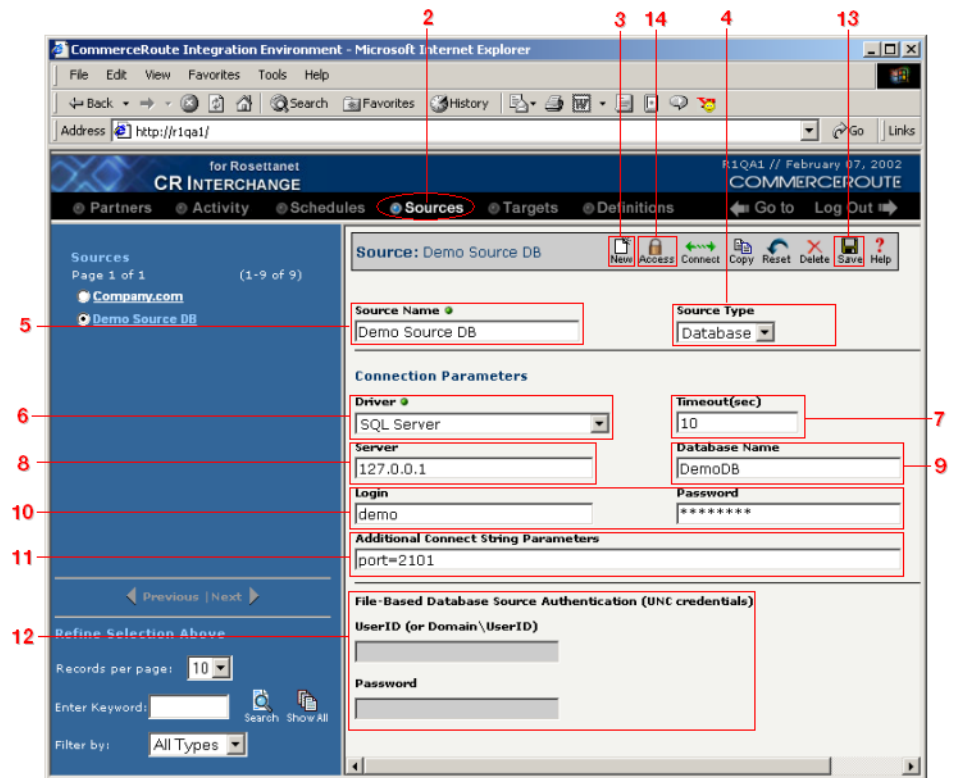

Figure 7-1. Follow the steps listed above to successfully define a new database source.
Follow these steps to create a new database source definition. Each step is marked in Figure 7-1 below.
- ❸ Click on the **New** button in the toolbar to create a new source definition.
- ❹ Choose **Database** from the **Source Type** drop-down menu.
- ❺ Enter an appropriate name for your new source in the **Source Name** field.
- ❻ Select the appropriate database driver from the **Driver** drop-down menu. Depending upon the driver you select, different fields may become enabled or disabled.
- ❼ (Optional) If you want to set a limit for how long to wait for a successful connection to the database, enter the number of seconds in the **Timeout** field.
- ❽ Enter the database server name (either name or IP address) you want to access into the **Server** field.
- ❾ Enter the name of the database you want to access into the **Database Name** field.
- ❿ (Optional) Enter a username and password into their respective fields that will allow access to your database.
- ⓭ Click the **Save** button in the toolbar. Compare your definition to that shown in Figure 7-1 below.